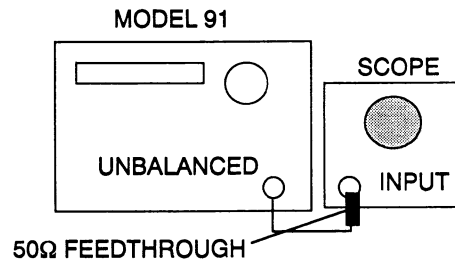

Figure 4-6. SCM Null Setup
2. Connect the test equipment as shown in figure 4-6. Set the scope for 50 mV/div (Vdc).